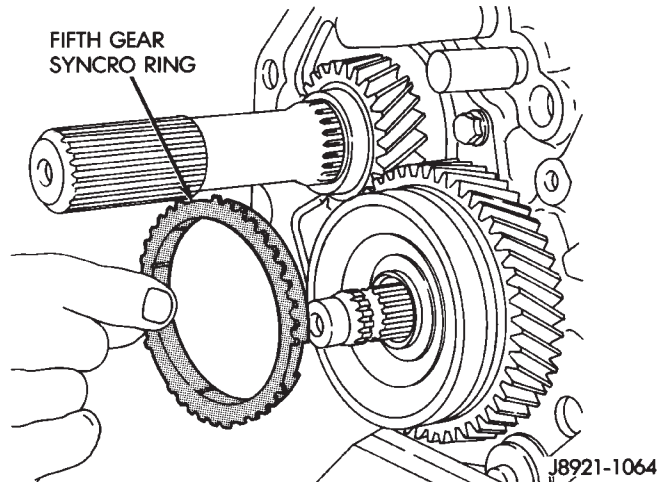

Fig. 34 Removing Fifth Gear Synchro Ring
(15) Remove fifth gear synchro ring (Fig. 34).